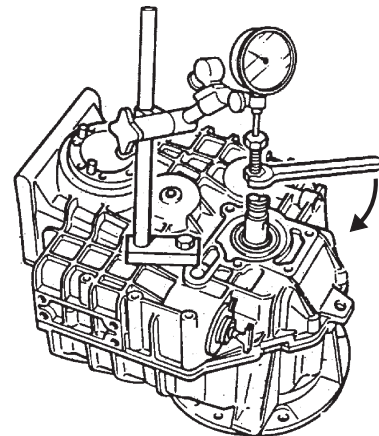

FIG. 5-5a
- a) Unscrew plug (item 1, Fig. 5-5a) from the housing
- b) Screw bolt (tool no. 458105) (item 2, Fig. 5-5a) into intermediate shaft
- h) Apply Loctite 242 or 262 on to mounting bolts (item 1 Fig. 5-5a) and torque them to 40 Nm (30 ft lb)